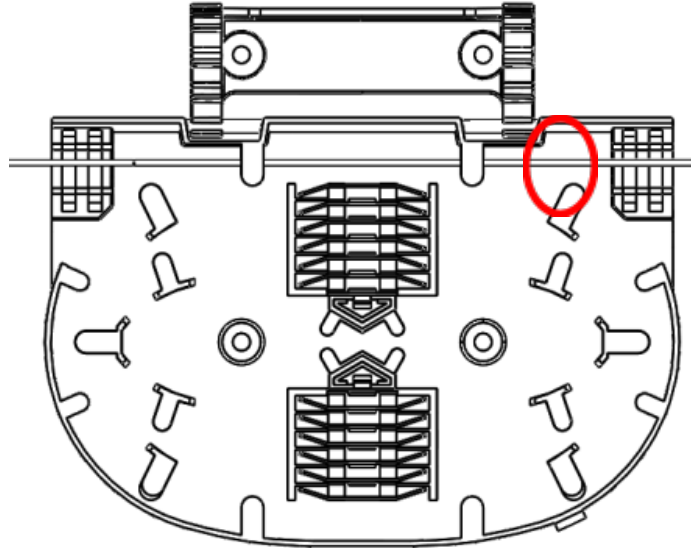

Figure 18
- 1.5.4 Place the tube into the desired position for installation. Place a mark where to prep the tube/jacket of the cable. (Fig. 18);